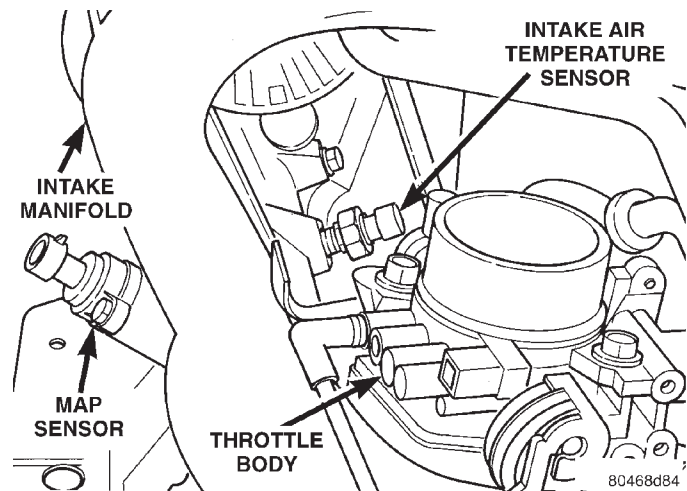
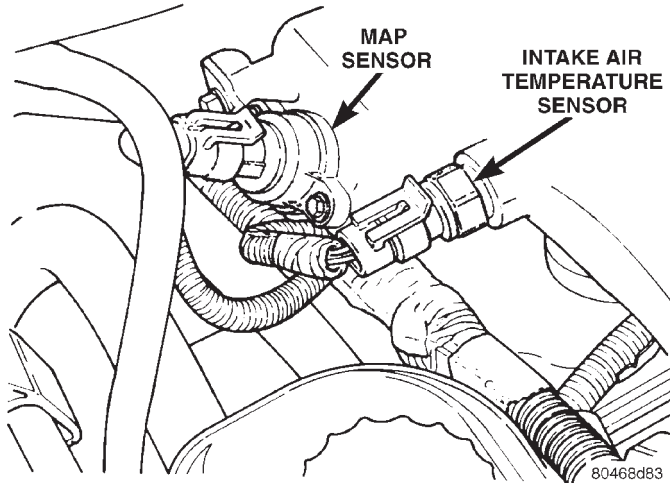

Fig. 51 Intake Air Temperature Sensor and MAP Sensor—2.4L
Fig. 52 Intake Air Temperature Sensor and MAP Sensor—2.5L
The intake air temperature sensor threads into the intake manifold plenum (Fig. 51) or (Fig. 52).
The MAP sensor attaches to the intake manifold plenum (Fig. 51)
- (1) Remove mounting screws from sensor (Fig. 52).
- (2) Unplug harness connector and remove sensor.